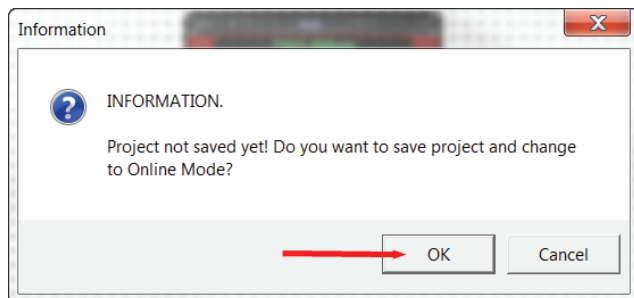

Figure 17
- The software will generate new information windows. Click the OK button to proceed as shown in Figures 17 & 18.